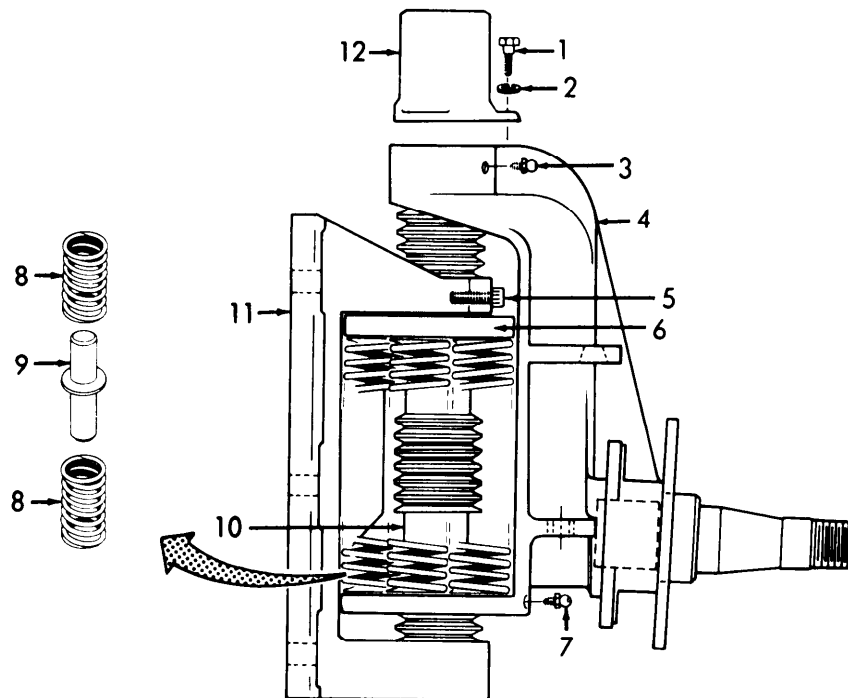

Figure 3-27. Springs, Installation.
- (8) Refer to and push kingpin (10, Figure 3-27) up through top hole in knuckle (4).
- (9) Aline hole in kingpin (10) with small hole in bracket (11). Install cap screw (5) through bracket and into kingpin.
- (10) Position six springs (8) on three spring guides (9).
- (11) Place springs (8) and spring guides (9) in position on spring support assembly (6).
- (12) Using hand or screwdriver pressure, place spring (8) and spring guide (9) assemblies into position on knuckle (4).
- (13) Install cap (12), three lockwashers (2), and three bolts (1).
- (14) Install two grease fittings (3 and 7).